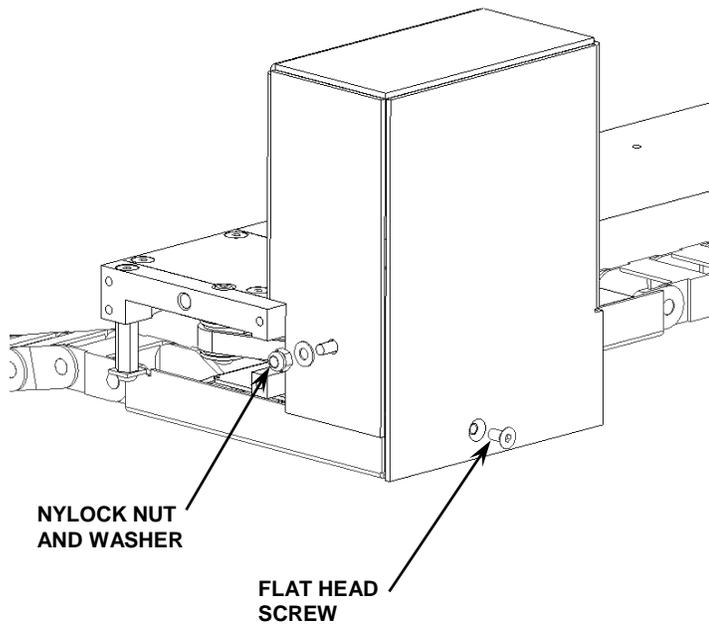

Figure 8-3: Removal of Cover, part A
1. Remove the cover of the X- Assembly by removing the three screws indicated in Figure 8-3 and 8-4.